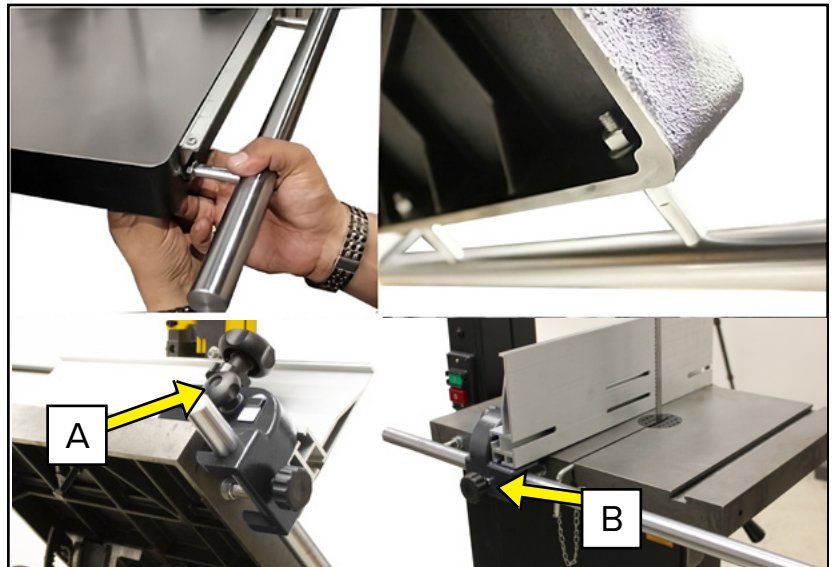

Figure 6: Installing the Rip Fence.
- Slide the fence carrier assembly (#9F) onto the fence's guide rail as shown in Figure 6.
- Slide the rip fence (#18F) onto the fence carrier and secure it by tightening the fence lock knob (#7F), located on the carrier's side opposite the fence Figure 6 (A).
- Use the front locking handle (#10F) to lock the fence on the rail to prevent movement during assembly Figure 6 (B).